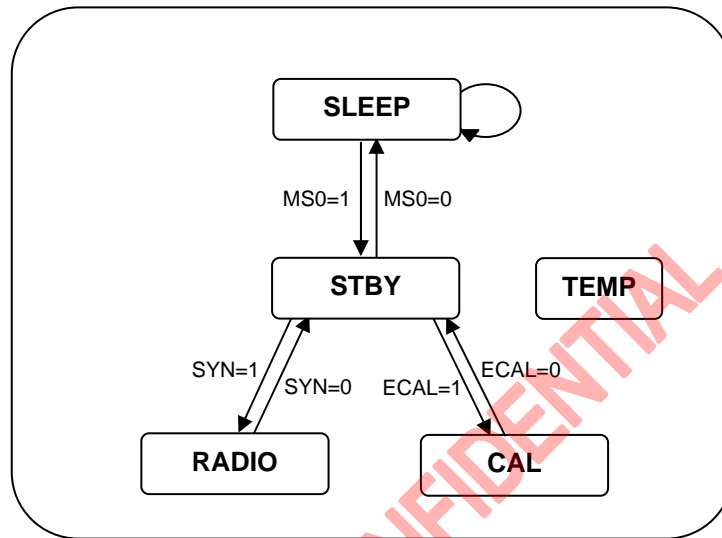

Figure 1: A7121/A7122 State Diagram
The state machine inside the chip controls the A7121/A7122 GFSK transceiver operation. During normal operation, the A7121/A7122 is in one of five states (i.e., SLEEP, STBY, RADIO, CAL, TEMP). The state diagram is shown in Figure 1 below.
The A7121/A7122 must be in the TEMP (Temperature measurement) state to do temperature measurement as shown in Figure 1. The TEMP state is an independent state. It may execute temperature measurement in the TEMP state simultaneously when the transceiver is in other state (except the SLEEP state) for doing some thing. For doing temperature measurement, there are some configurations must be set. First, the EXDR bit (**Mode control register** bit 8) must be set to 1. The ET bit (**Calibration control register** (I) bit 0) for enabling temperature measurement must be set to “1” to enter the TEMP state. After the measurement is done, the ET bit will be set to “0” automatically and the transceiver will leave the TEMP state. The state transition to the TEMP state will postpone if the calibration process or RSSI measurement is executing. Similarly, the state transition of the CAL state or the RSSI sub-state will delay until the temperature measurement is done. The following figure is RSSI measurement timing.